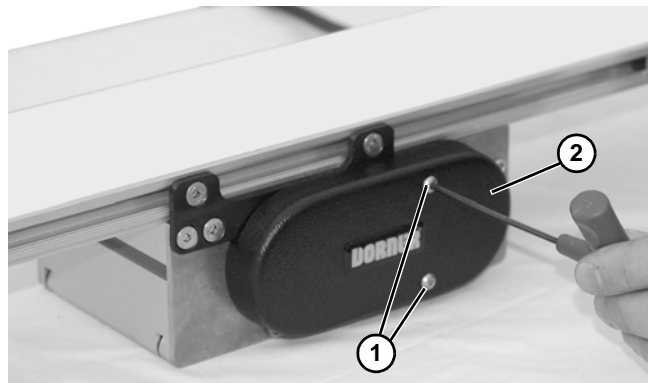

Figure 29
7. Remove two screws (**Figure 29, item 1**) and cover (**Figure 29, item 2**) from conveyor.